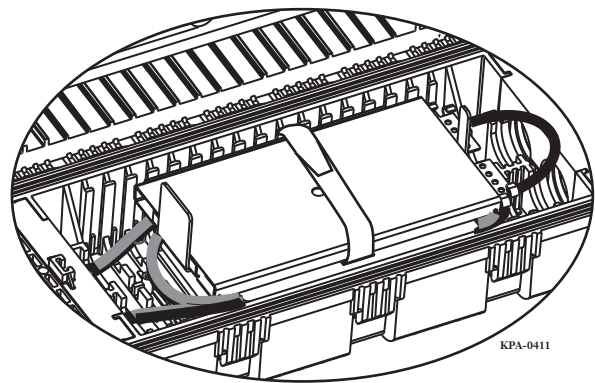

Figure 50
- Step 4:** Rotate the tray stacker down. Secure the tray(s) in the stacker with the hook-and-loop strap provided (Figure 50).